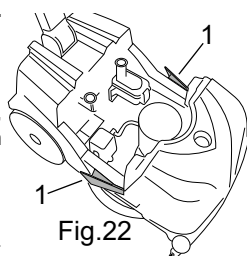

Fig.22
- Press in the two lateral tank retaining catches (fig. 22, ref. 1), separate the dirty water tank from the frame and set it down on the floor.